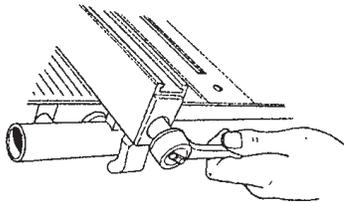

Figure B-92
lock nut (217). When the clamp touches the table tube, loosen the lock nut 1/8 turn or less. See Figure B-92.
- b. If too loose, lock the handle, then use a 1/2" socket and ratchet wrench to tighten the lock nut (217). When the clamp touches the table tube, loosen the lock nut 1/8 turn or less. See Figure B-92.